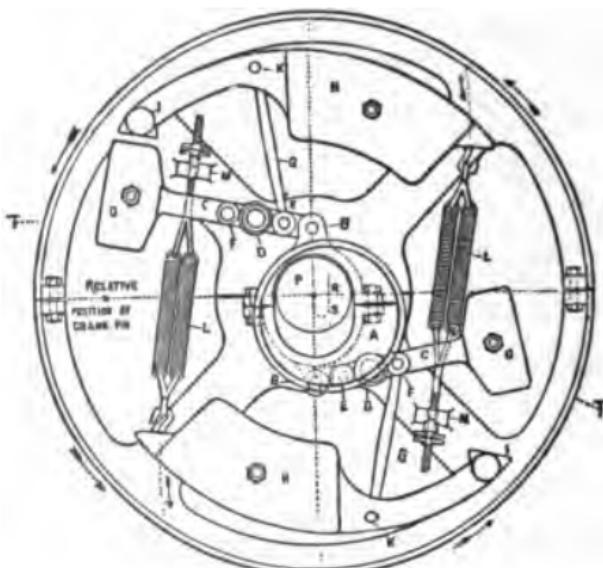
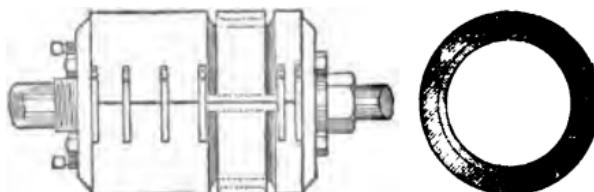

FIG. 21. FITCHBURG GOVERNOR.
FIG. 22. FITCHBURG VALVE.
A. The valve-gear is positive, with independent steam and exhaust valves. The upper valves, worked by a wrist-plate, control admission and cut-off; the lower control the exhaust and are adjustable independently of the others, but not automatically. The valves are pistons (see Figs. 22 and 23) with double ports, and are expandable to take up wear. The exhaust valves are on a line with the cylinder bottom. The governor (Fig. 21) has weights *O*, acting on fulcrums *D*, to balance the weight of the eccentric and strap. The connecting rod *G* is attached to the suspension arm *C* at *E*, acting directly on the eccentric, while the opposite rod *G'* is attached to the opposite arm *C* at *F*, acting over the pin *D* as a fulcrum so that the outward motion of both the centrifugal weights *H* acts with equal power to move the eccentric across the shaft. By transferring the ends of the rods